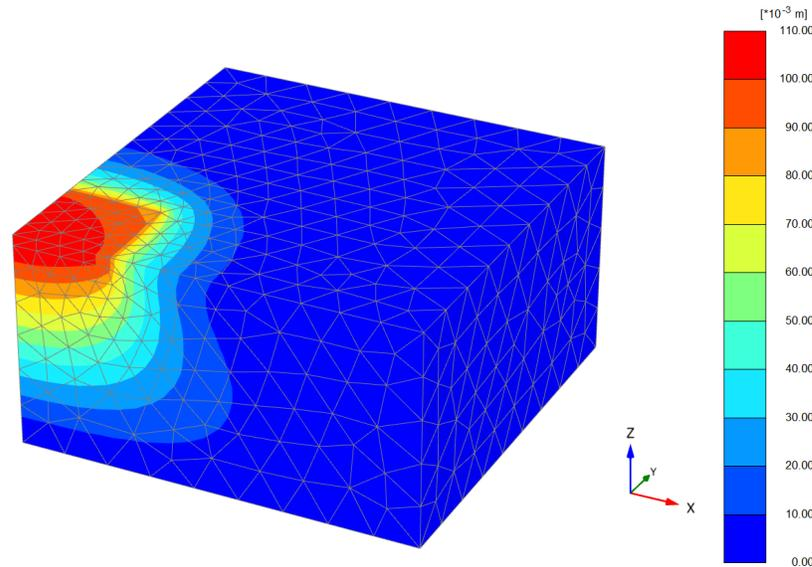

Figure 18: Shadings of Total displacements at the end of the last phase
- Select the menu **Deformations > Total Displacements > |u|**. Figure 18 (on page 25) shows colour shadings of the total displacements. A legend is presented with the displacement values at the colour boundaries. When the legend is not present, select the menu **View > Legend** to display it.